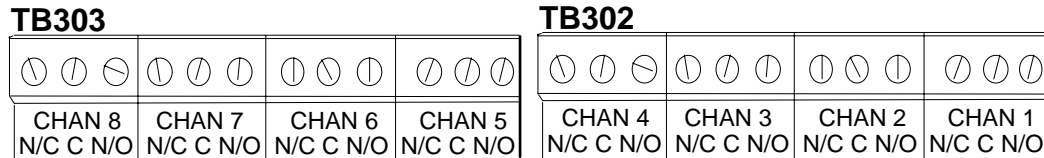

Figure 2-12. Connector TB302 and TB303 for wiring relays to equipment
9. To connect the relays to your equipment, use connector TB302 and TB303. See Figure 2-12.